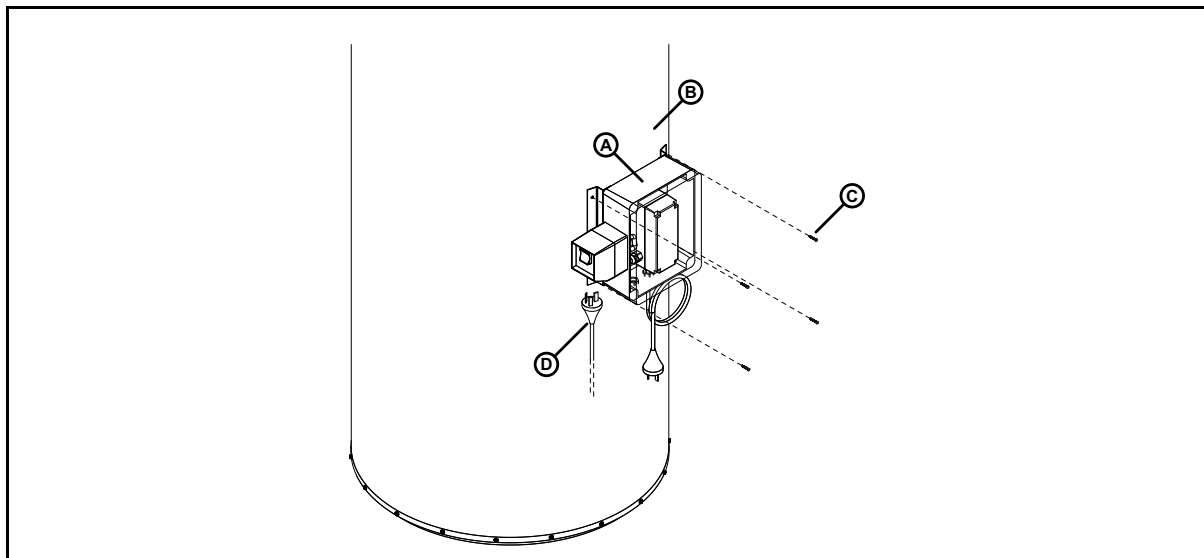

Figure 5 - Fitting DD250HEXHWTSTAT to Tank
- Attach the DD250HEXHWTSTAT provided to the tank or to an adjacent permanent structure. Leave sensor sheath and electrical cable packaged. When mounting the location (Tank or otherwise) you must consider the routing length of the pump power feed and the control power feed. The length of both of these cable is 2 m. (Refer Figure 5).